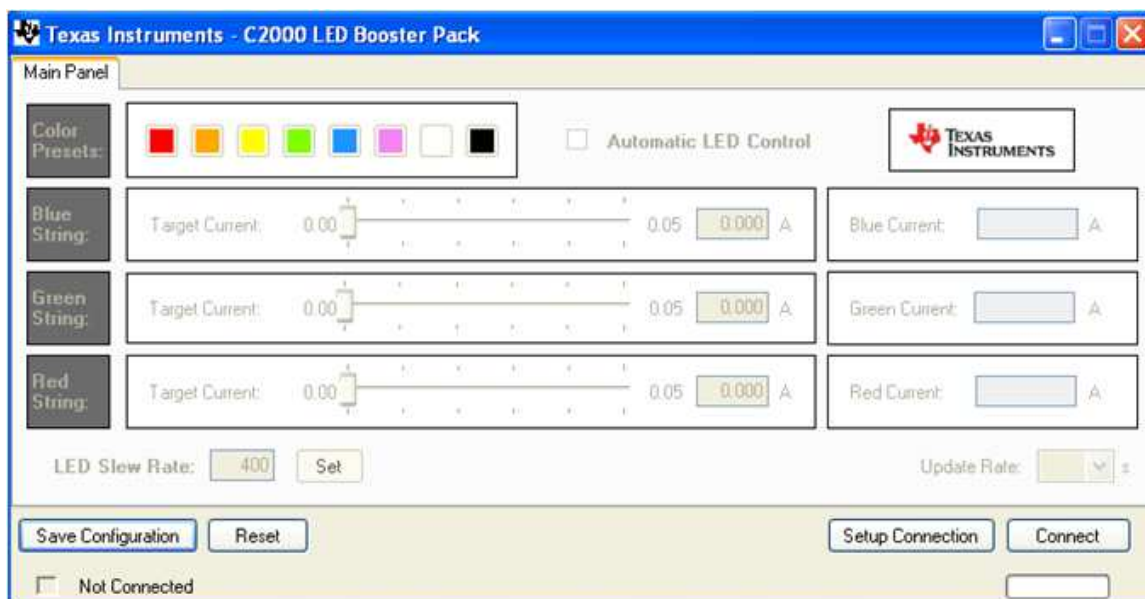

Figure 5. LED BoosterPack GUI
4. Browse to and run the *LED_BOOST_PC_GUI.exe* GUI. The program shown in Figure 5 should appear. This executable resides next to the embedded example application in Resource Explorer.